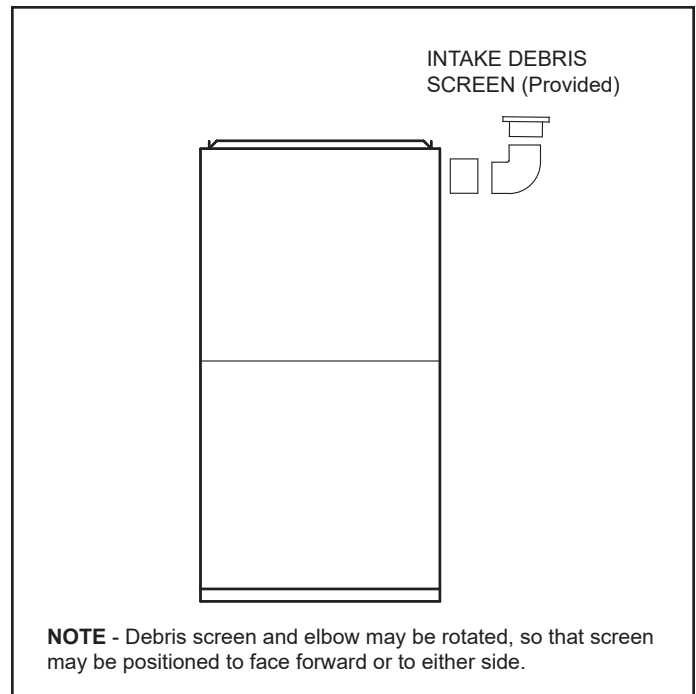

Figure 25. Typical Air Intake Pipe Connections Upflow Non-Direct Vent Applications
1. Use field-provided materials and the factory-provided air intake screen to route the intake piping as shown in Figure 25 or Figure 26. Maintain a minimum clearance of 3" (76mm) around the air intake opening. The air intake opening (with the protective screen) should always be directed forward or to either side in the upflow position, and either straight out or downward in the horizontal position.